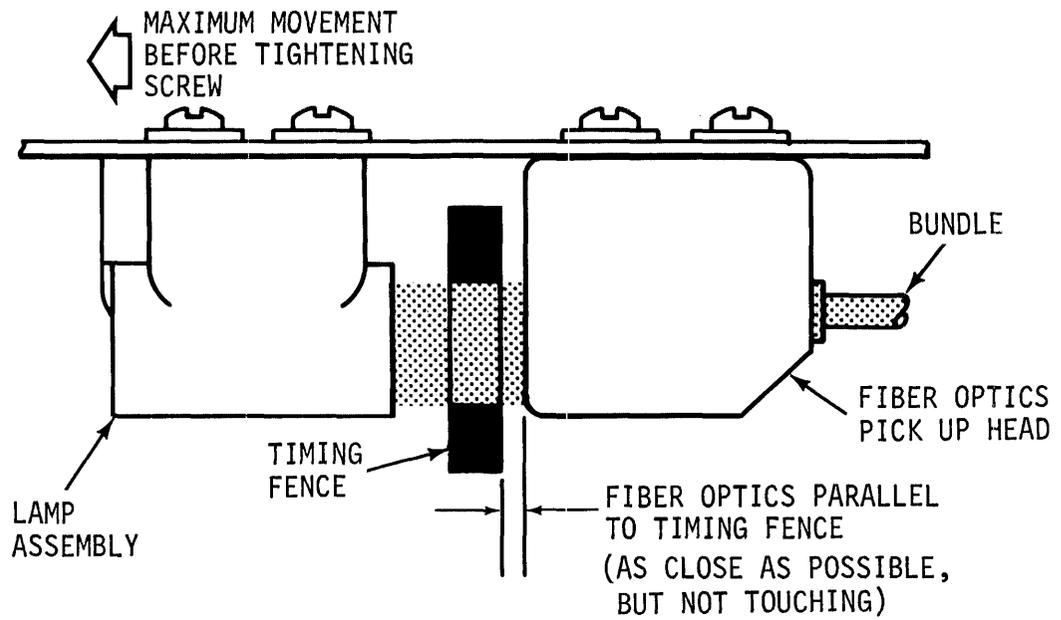

Figure 5-10. FIBRE OPTICS HEAD, ADJUSTMENT FROM OPTIC FENCE
2. Move lamp holder housing assembly (B-32) without lamp (B-41) and socket (B-42) backward on screw adjusting slots at maximum distance from timing fence (Fig. 5-10). Tighten screws (B-35) (screws must be flat-head) when right side of lamp housing is aligned parallel to edge of bracket.
4. Adjust the right, top edge of fibre optics head so that it is parallel with edge of bracket (B-26) and as close to fence without touching (See Fig. 5-10).